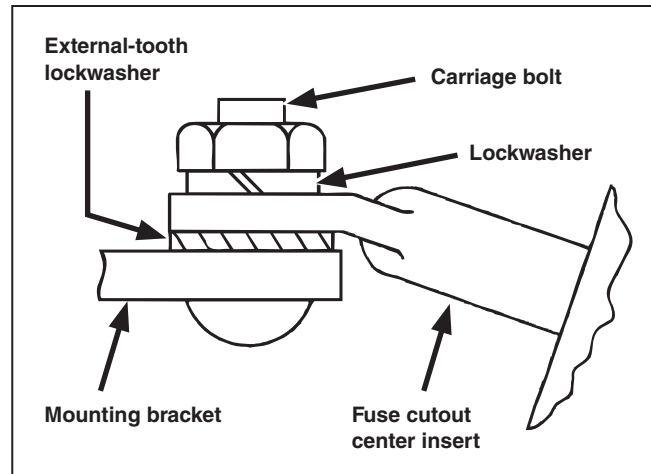

Figure 1. Detail of the fuse cutout attachment to the mounting bracket.
STEP 1. Attach the fuse cutout to a suitable mounting bracket, as illustrated in Figure 1. Tighten the carriage bolt nut until snug but loose enough to permit pivot adjustment. Note the placement of the external-tooth lockwasher between the mounting bracket and the center insert of the mounting.